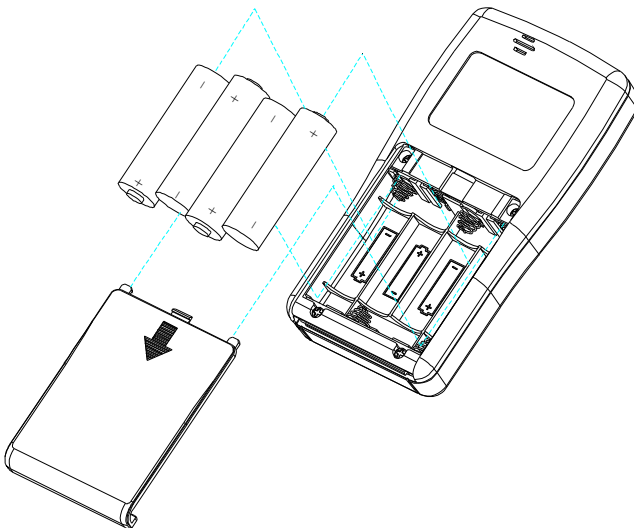

Figure3-1: Installing Batteries
2. Install four “AA”size batteries, oriented as shown in Figure 3-1. Replace the battery access door.